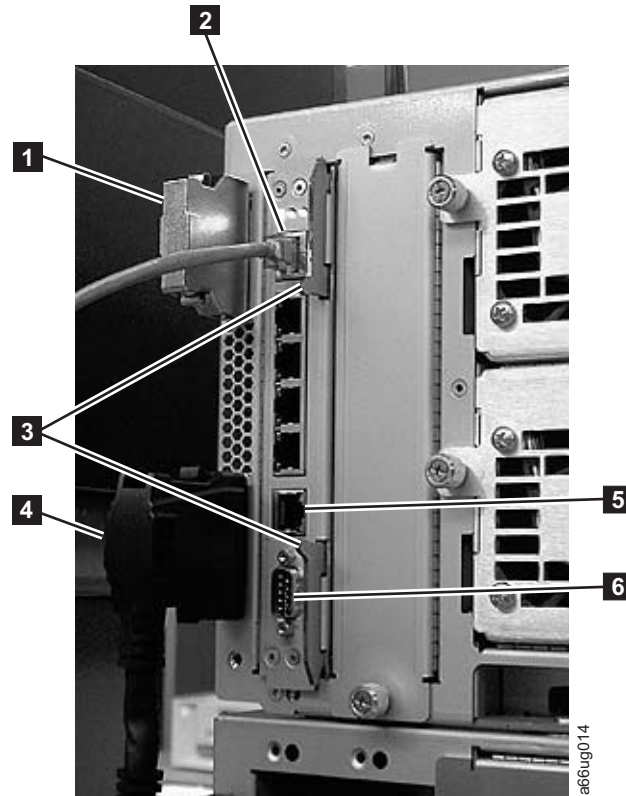

Figure 11-9. Library Control Blade
3. Grasp the pair of latches near the top and bottom of the LCB (**3** in Figure 11-9) by pushing them in until they click into place.
4. Reconnect the Ethernet cable (**2** in Figure 11-9) by pinching the tab and pushing the connector into the LCB.
Note: Six slots reside below the Ethernet cable. The four topmost slots are reserved for future use. The two bottommost slots are designated as Ethernet (**5** in Figure 11-9) and serial (**6** in Figure 11-9) ports, and are reserved for use by IBM Service Personnel.